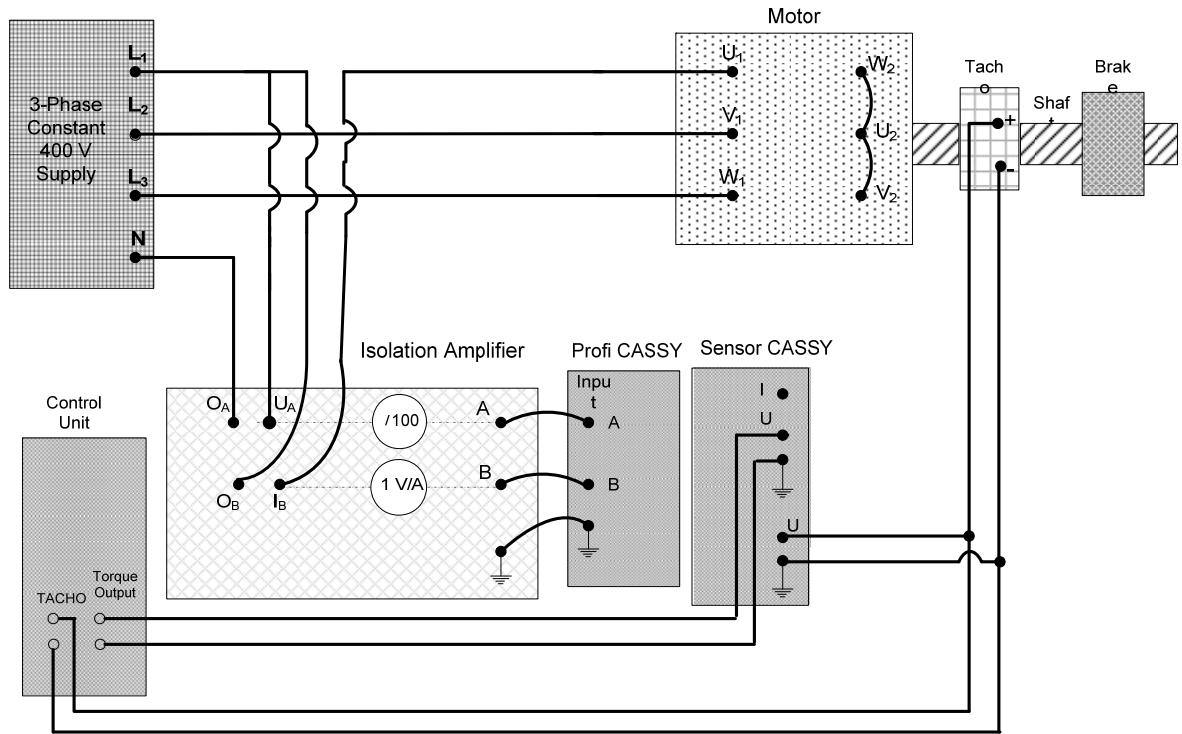

Fig. 4: Wiring diagram under Load Test
3. Connect the circuit as shown in the wiring diagram of Fig. 4. Note that the source used in this test is constant three-phase supply. Make sure that the constant supply is OFF before starting connections.